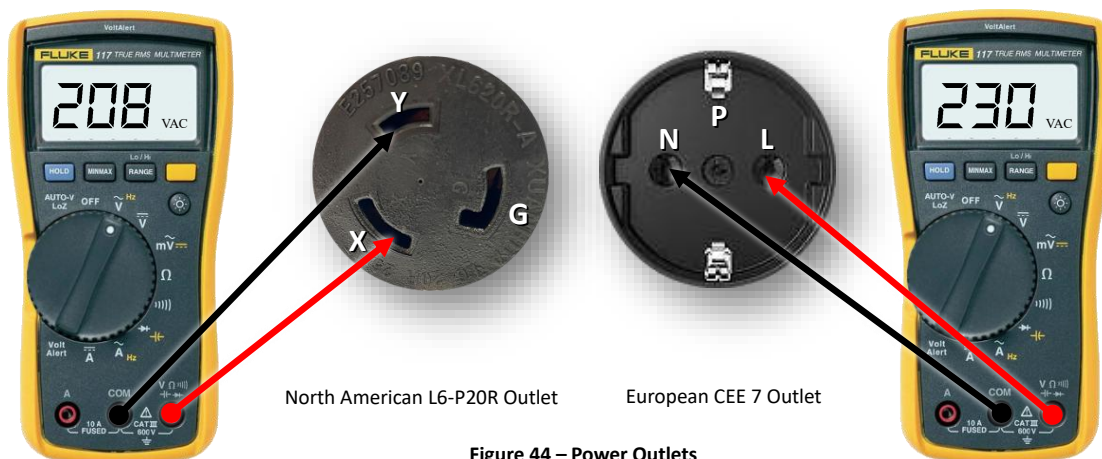

Figure 44 – Power Outlets
- b. Set the multimeter to the AC Voltage Selection $\tilde{V}$ and check the voltage at the building's outlet between the Y and X sockets (North America) or the N and L socket (Europe) (**See Figure 44**).
- i. If the multimeter reads ~ 208 VAC (NA) or ~ 230 VAC (EU), ensure the power cord is securely inserted into the outlet and check for voltage at the female end of the power cord (between the two top slots). Replace the power cord if no voltage is present.